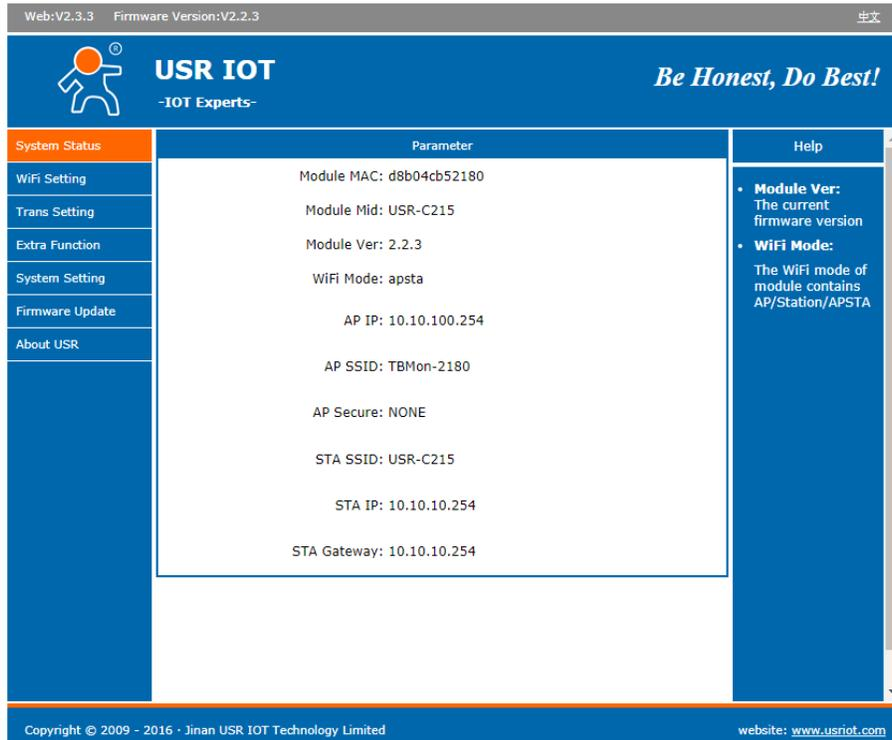

Figure 3: Main setup page (English)
4) Click on “English” at the top right of the page. The page will change to Figure 3